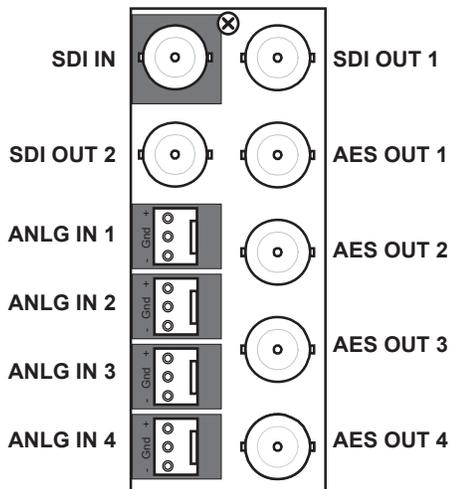
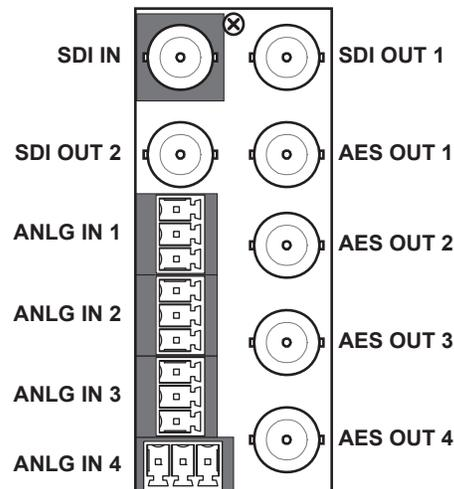

Figure 31 Cabling — 8320AR-058-03
Figure 32 Cabling — 8320AR-058-04
**Figure 31** illustrates the cabling designations for 8320AR-058-03 rear module. **Figure 32** illustrates the cabling designations for the 8320AR-058-04 rear module.